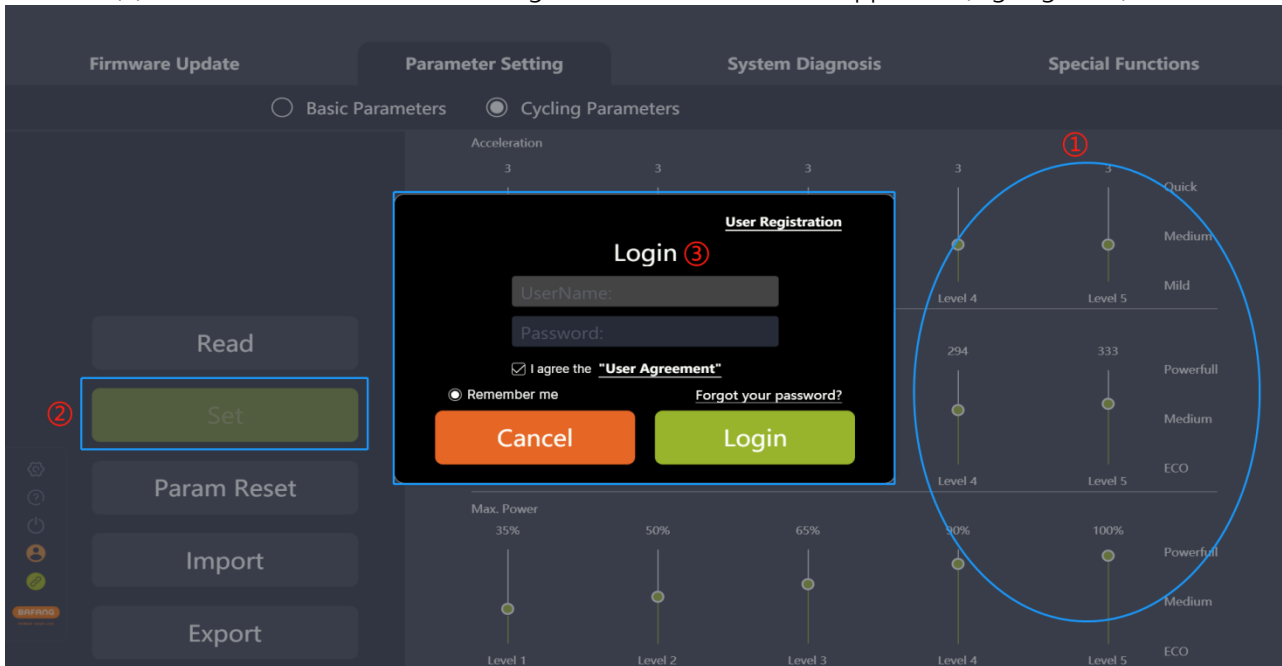

Fig. 5-12 Login
- (1) After reading successfully, adjust the parameters on the right side by pulling the slider;
- (2) Click the "Set" icon;
- (3) If you are not logged in, "Login" interface will pop up, prompting you to login (e.g. Fig. 5-12). Note that you cannot set parameters without logging in to obtain authorization;